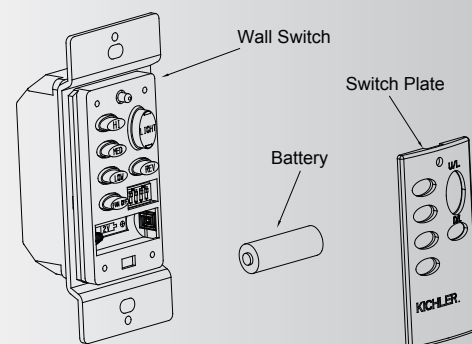

Fig. 24
**Step 1.** Use a small flat screw driver and gently pry it apart from the top or bottom of the switch plate. Install 1, 12volt battery included with wall mount Control system and make sure it is seated correctly. Replace the switch plate. (Fig. 24)
**Step 2.** Test the transmitter by pressing and releasing ANY button. A RED Light should illuminate, if not, check to make sure the battery is inserted and seated correctly. (Fig. 24)